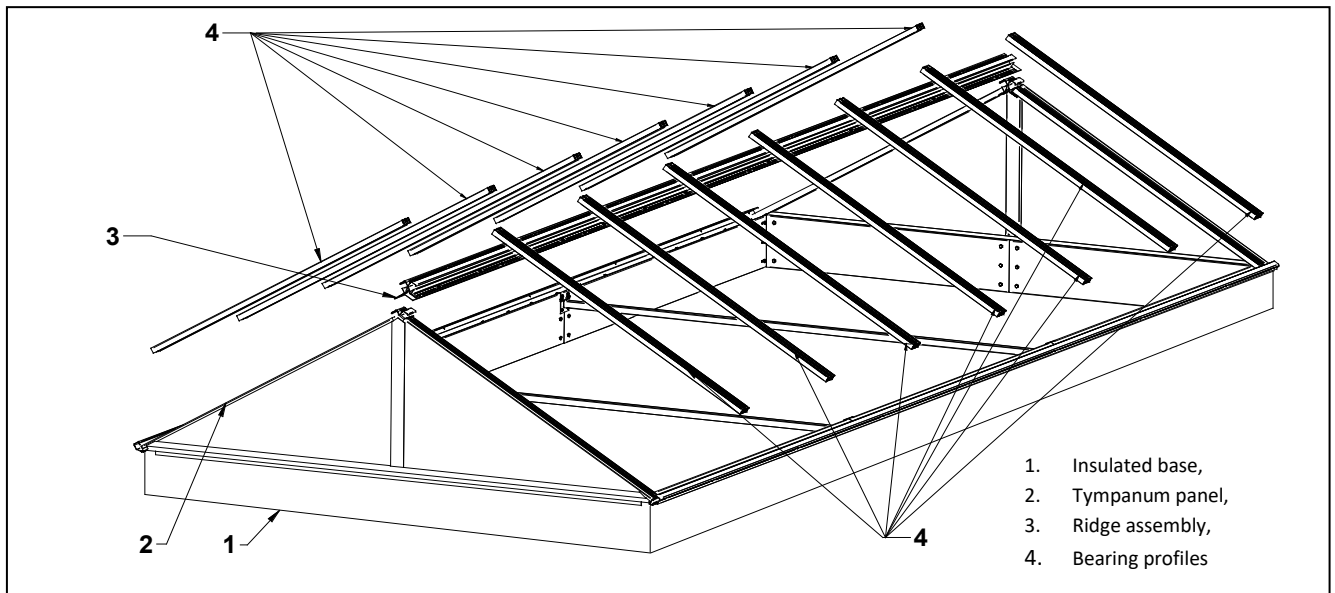

Figure 78 Installation of bearing profiles and assembled set of ridge profiles (step 1)
4. Assemble together the bearing profiles and the ridge assembly (two edge profiles connected with an angle bar) according to the documentation accompanying the delivery. The bearing profile axis must coincide with the axis of tension screw holes in the edge profile (not to be confused with drainage holes) according to the supplied drawing according to (Figure 78 Installation of bearing profiles and assembled set of ridge profiles (step 1)).